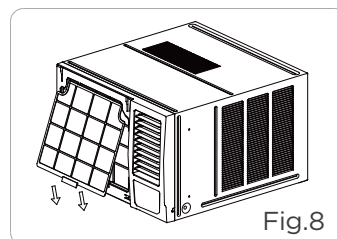

Fig.8
1. Insert the air filter into the frame's slot from upside to underside. (See Fig. 8)